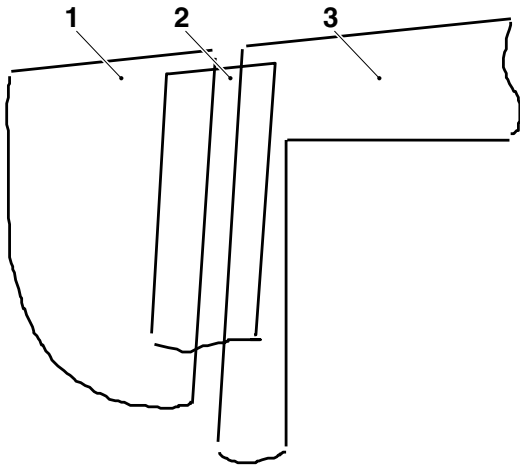
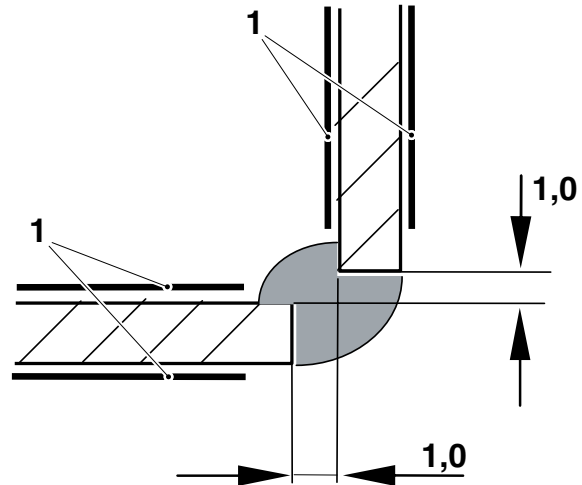

Figure 2: Adjusting side window - cab roof
Figure 3: Adjusting side window - windscreen
- 6 When the windscreen or a side window is to be replaced, then the window panes must be adjusted so that the upper edge on the side window has the same height as the upper edge of the roof (see Figure 2) and so that the distance between windscreen and side window is as shown in Figure 3.